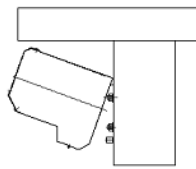

Fig. 3
3. Screw tightly the air curtain on the mounting plate and check. (Fig. 3, 4)